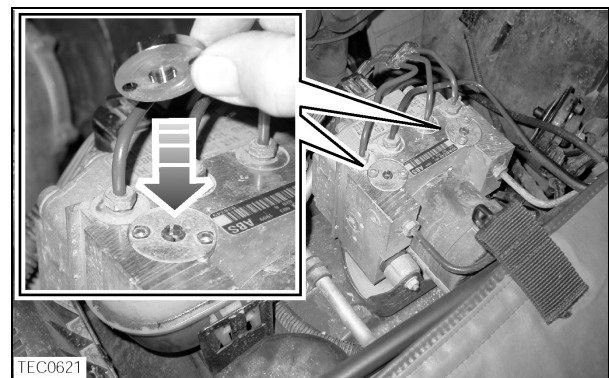

Fig. 4
4. Install the additional reinforcing covers on the top of the existing reduction valve reaction plates (recess facing downwards), making sure the recess in the cap clears the plastic clip (see Fig. 4).